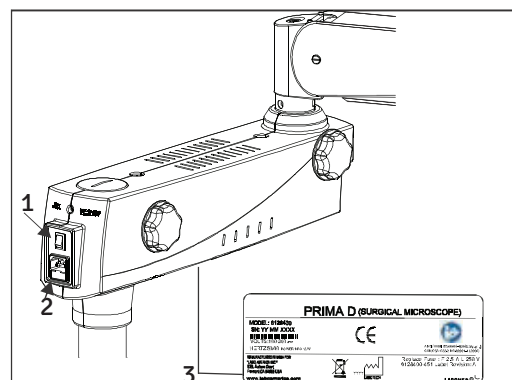

Fig. 7
9.1 ON/OFF SWITCH (SHOWN AS 1 IN FIG. 7 ABOVE)